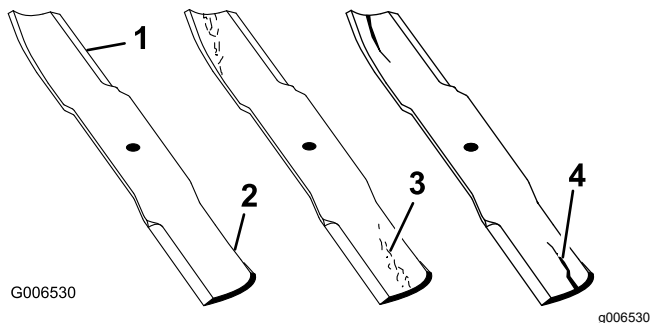

Figure 142
2. Examine the cutting ends of the blade carefully (especially where the flat and curved parts of the blade meet) as shown in Figure 142.
Note: Since sand and abrasive material can wear away the metal that connects the flat and curved parts of the blade, check the blade before using the mower. If you notice wear, replace the blade (Figure 142).